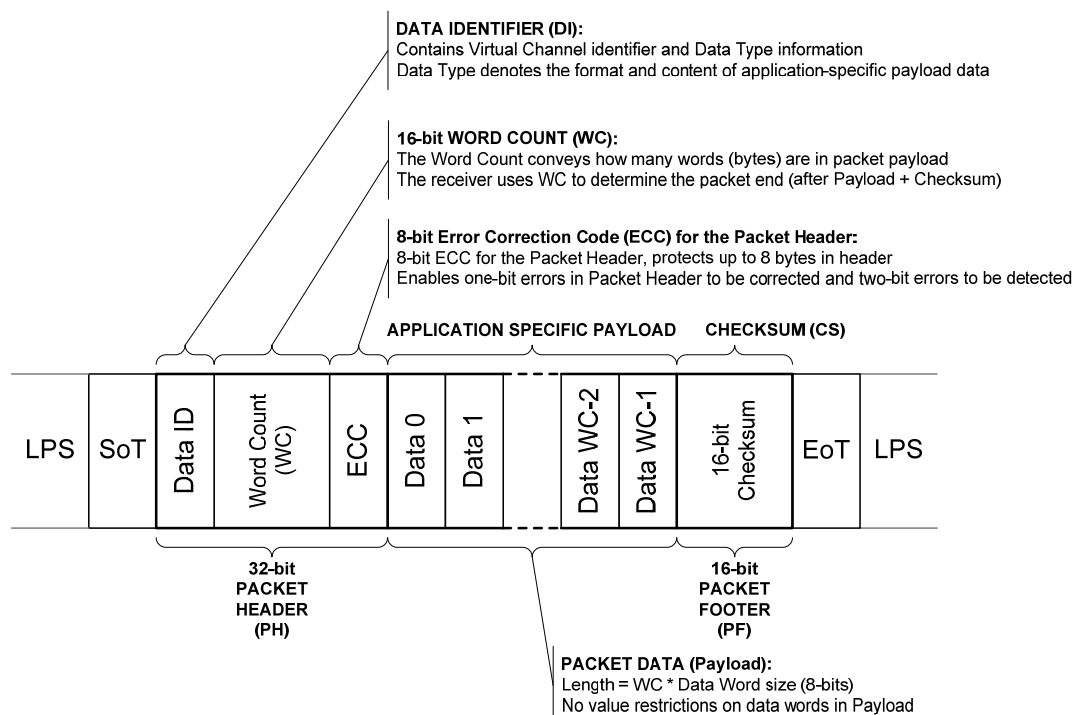

Figure 35. Long Packet Structure
Figure 35 shows the structure of the Long packet. A Long packet shall consist of three elements: a 32-bit Packet Header (PH), an application-specific Data Payload with a variable number of bytes, and a 16-bit Packet Footer (PF). The Packet Header is further composed of three elements: an 8-bit Data Identifier, a 16-bit Word Count, and 8-bit ECC. The Packet Footer has one element, a 16-bit checksum. Long packets can be from 6 to 65,541 bytes in length.